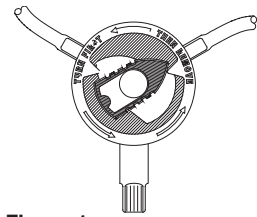

Figure 1
- Turn the position indicator on the stay•safe disc counter-clockwise until it fits into the cut-out portion of the colored plastic cover on the disc as illustrated in Figure 1. Remove the plastic cover while the indicator is in this position (position 1; •). Once the cover is removed, do not turn counter-clockwise.